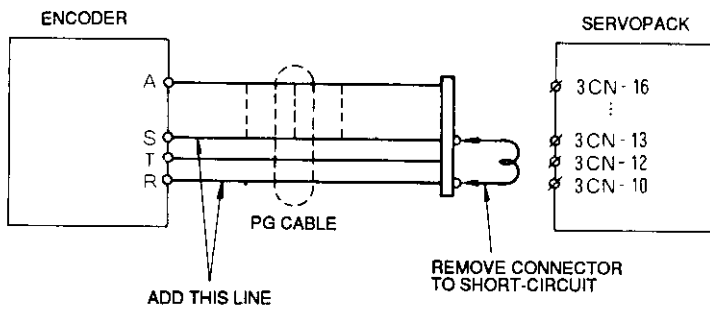

Fig. 7.7 Setup by PG Cable
2. If the motor is built in the machine and setup must be performed without contacting the encoder connector, set the PG cable as shown in Fig. 7.7 and remove Servopack 3CN to short-circuit with Servopack side connectors.